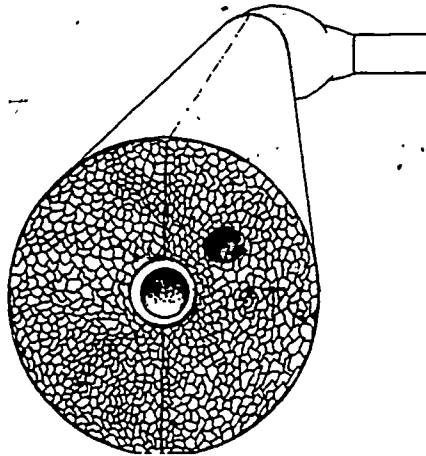

Figure 47. Moulded Cork Pipe Covering
**CORK.** Cork pipe covering is a granulated material that is processed from the bark of cork trees. Figure 47 illustrates a piece of cork pipe covering. This pure, clean, granulated cork is compressed and molded to exact size and shape. It is finished with a coating of plastic asphalt, which is an ideal covering for cold water, brine, ammonia, and ice water lines. It has excellent insulating qualities over a wide low temperature range. It will not rot or support combustion. It is clean, sanitary and odor free. Cork covering is available in a wide variety of sizes and shapes that can be used on different size pipes and fittings.